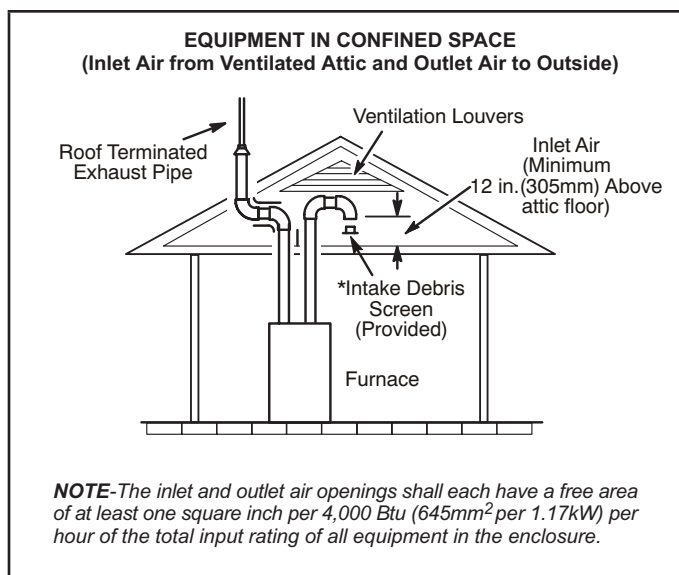
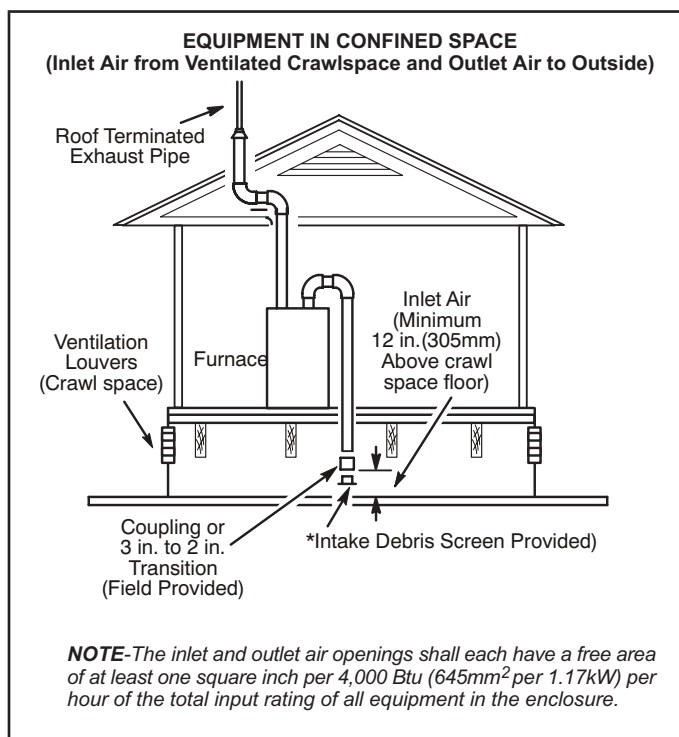

FIGURE 26
FIGURE 27
- 2 - If intake air is drawn from a ventilated attic (FIGURE 26) or ventilated crawlspace (FIGURE 27) the exhaust vent length must not exceed those listed in TABLE 8. If 3" diameter pipe is used, reduce to 2" diameter pipe at the termination point to accommodate the debris screen.